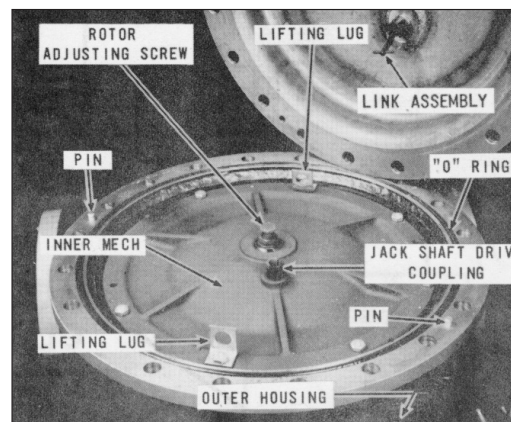

Figure 12 – Cover Removed
1. Loosen the adjusting screw nut, Figure 12.